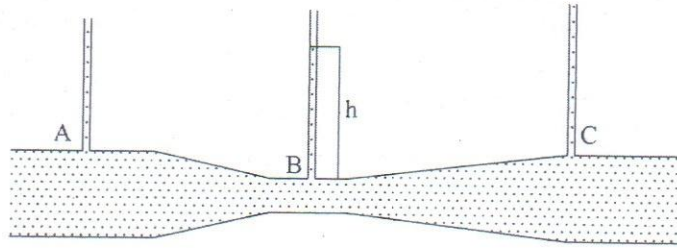

Fig.: 7
- (b) In the constricted pipe of Fig. 7 friction loss between A and B is negligible while (12)